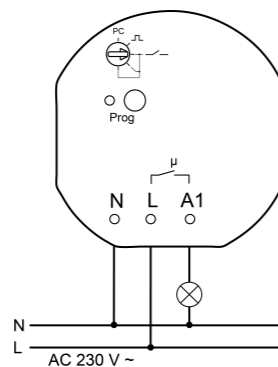

Figure 2: Connection example radio switching/push-button actuator
- Connect load as shown in the connection example (Figure 2).